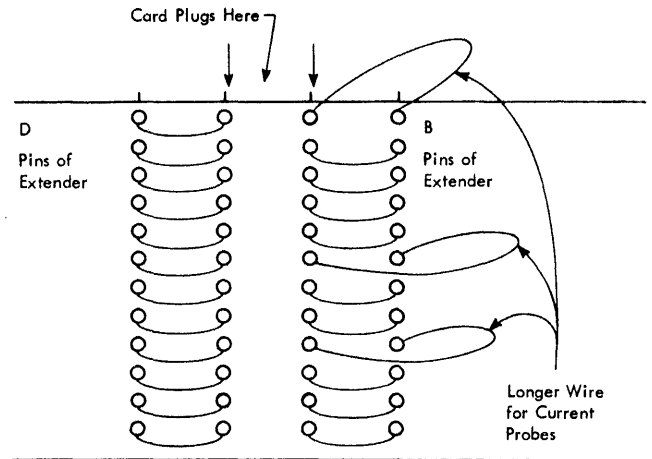

FIGURE 56. CARD EXTENDER JUMPER WIRE
3. On the extender, locate the line you want to scope, remove the short jumper wire (Figure 56), and replace it with a longer wire. This will give you a sufficient loop with which to hang the current probe.